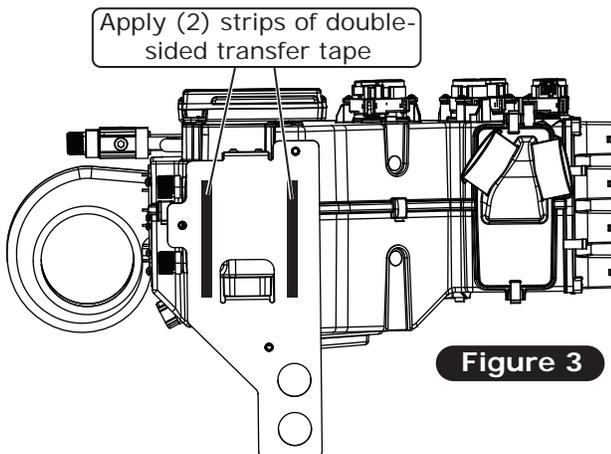

Figure 3
7. Apply (2) strips of double-sided transfer tape onto the front bracket as shown in Figure 3, below. **NOTE: This will secure the gasket in place during the installation.**